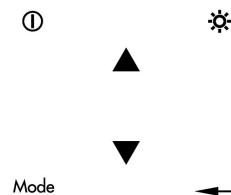

Figure 1
The YSI 550 DO keypad consists of six keys. See Figure 1. There are four function keys, and up and down arrow keys. The top left key that has a green circle and line is the ON/OFF key. The top right key is the backlight. The bottom left is the Mode key, and the bottom right is the Enter key.
3. Insert the long end of the hex key wrench into the small hole in the side of the DO sensor module (see figure 1). Turn the wrench counter clockwise and remove the screw. (You do not have to remove the screw all the way to release the sensor.)